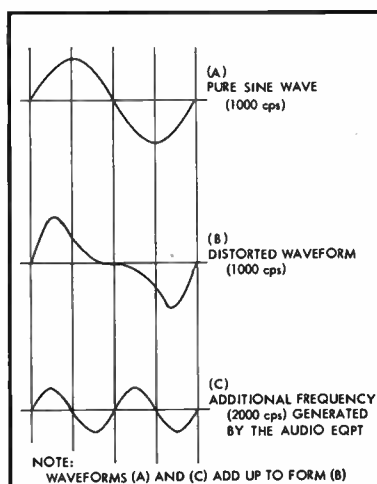

Fig. 1. Example of harmonic distortion.
It can be demonstrated, mathematically and by suitable test equipment, that the change in the waveform actually consists of the addition of new frequencies to those that were originally produced by the sound source. This is illustrated in Fig. 1. At (A) we see the original waveform, a pure sine wave; (B) shows a distorted version of the original. The distortion consists of the waveform